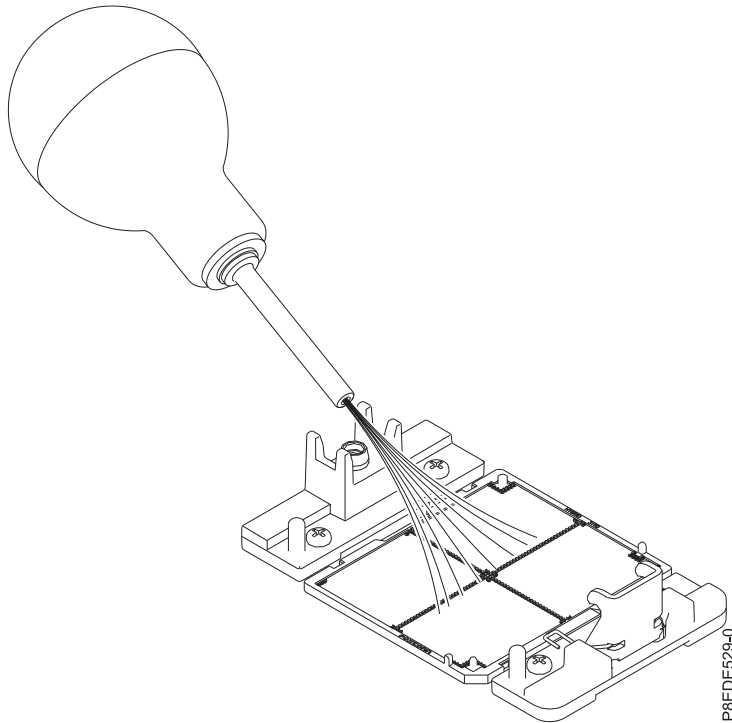

Figure 123. Removing dust and debris from the system processor socket
- a. If dust or debris is present on the system processor socket, use the supplied air pump (part number 45D2645) to clean the socket. If your air pump is not assembled as shown in Figure 123 on page 125, fasten the tip onto the bulb. Blow small bursts of air from the center toward the sides of the socket, as shown Figure 123 on page 125.